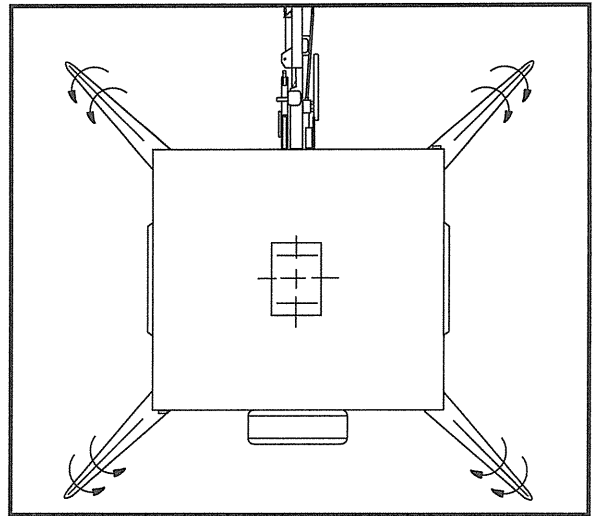

Fig. 66 Folding together the roof tarpaulin
- (4) Stowaway accessories and supplies.
- (5) Shut the pressure lids of the pressure cookers and pressure roasters and secure the lids from opening automatically during travel using cable tie wraps.
- (6) Shut the lids of the hot water boilers.
- (7) Shut the oven doors (67/4).
- (8) Shut the front and rear instrument/gauges flaps (67/16 und 67/5).
- (9) Slide the burners in the burner chambers to the transport position and shut the burner doors (67/7 und 67/18).
- (10) Fold up and engage the folding tables (67/8).
- (11) Dismantle side tarpaulins, as required (see Section 2.1.8.2).
(12) Fold roof together:
- Fold down the front and rear roof part and while doing this, pull the loose corner parts of the roof tarpaulin to the outside, roll them in (Fig. 66) and strap down the roof tarpaulin over the corner.